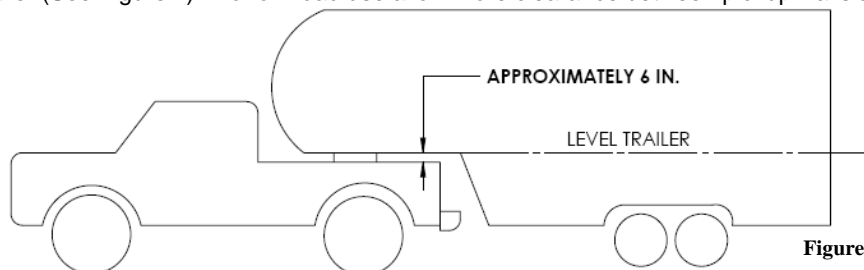

Figure 4
1. The Height of the hitch and pin box should be adjusted so the trailer is approximately level as it is towed. Allow approximately 6 in. clearance between the top of the bed and the underside of the front of the trailer for pitch and yaw of the trailer (See Figure 4). For off-road use allow more clearance between pickup walls and trailer.